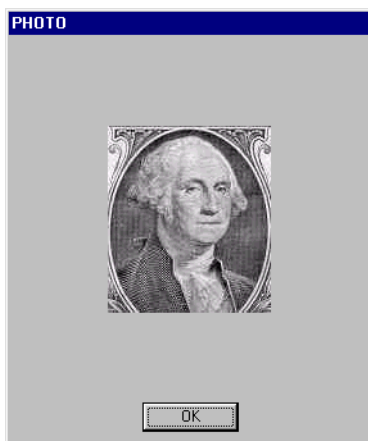

Figure 39: Displaying a Cardholder Photo Image File
3. If a photo image file exists for the selected cardholder the photo is displayed (see Figure 39).